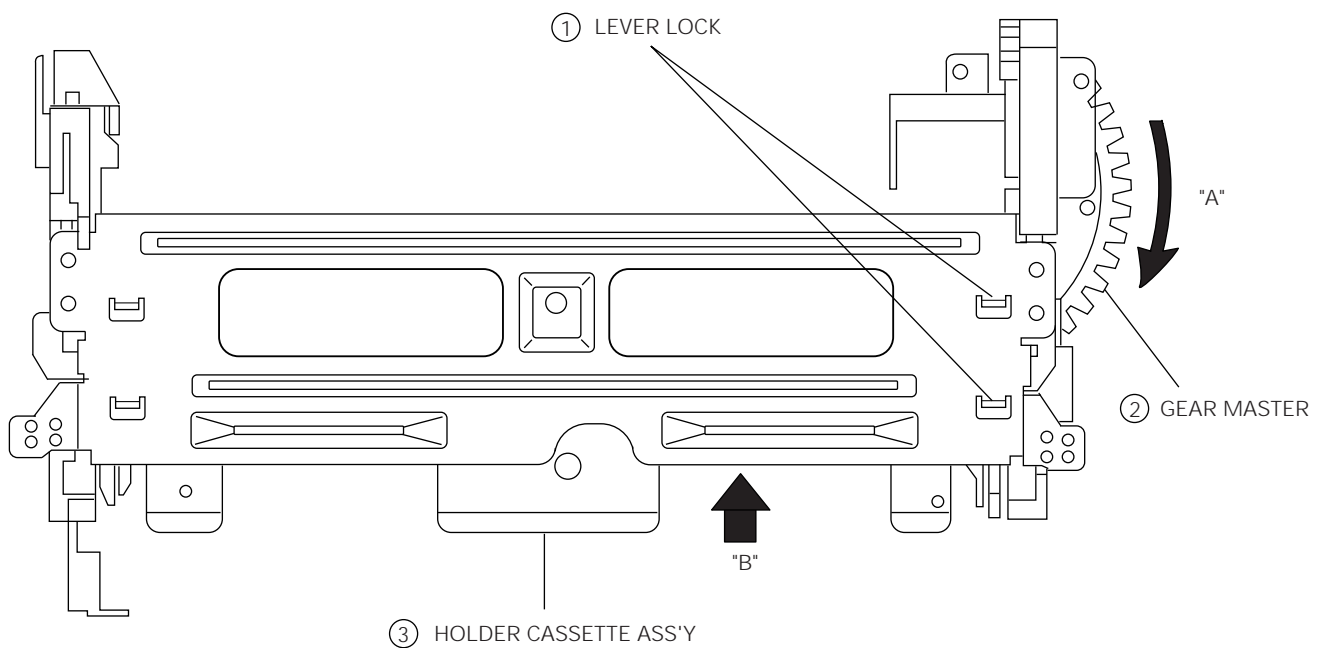

Fig.1-60 How to operate the Housing Ass'y
1. Push 4 Lever Locks ① of the Housing Ass'y Simultaneously. (Refer to Fig. 1-60)
2. Push the Cassette Ass'y Holder ③ toward arrow "B" while turning the Master Gear ② toward arrow "A".
(Refer to Fig. 1-60)
3. Load the Loading L, R Gear Ass'y ④, ⑤ to the middle position of Guide Rail by turning the Master Gear ② toward arrow "A". (Refer to Fig. 1-60, 1-61)